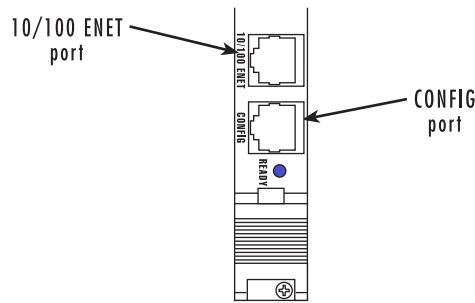
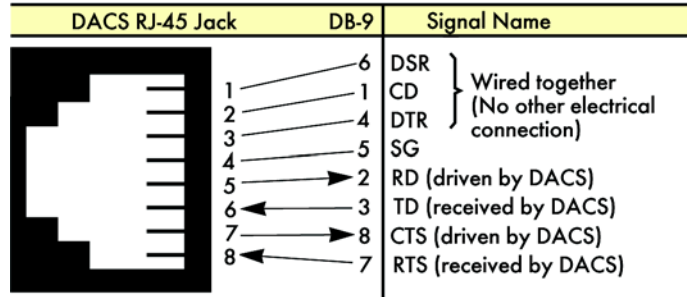

Figure 13. Matrix Switch front blade network interface ports
Figure 17. RJ-45 pin and signal definitions for Matrix Switch CONFIG port
- The Matrix Switch front blade’s 10/100 Ethernet LAN port and an EIA 561 RS-232 CONFIG port (see figure 13).
Install the supplied RJ-45-to-RJ-45 cable with the DB9-RJ45 adapter between the Matrix Switch RS-232 port (see figure 13 on page 35) and an open serial port on your computer. If you need to assemble your own cable, refer to the pinout diagram in figure 17.